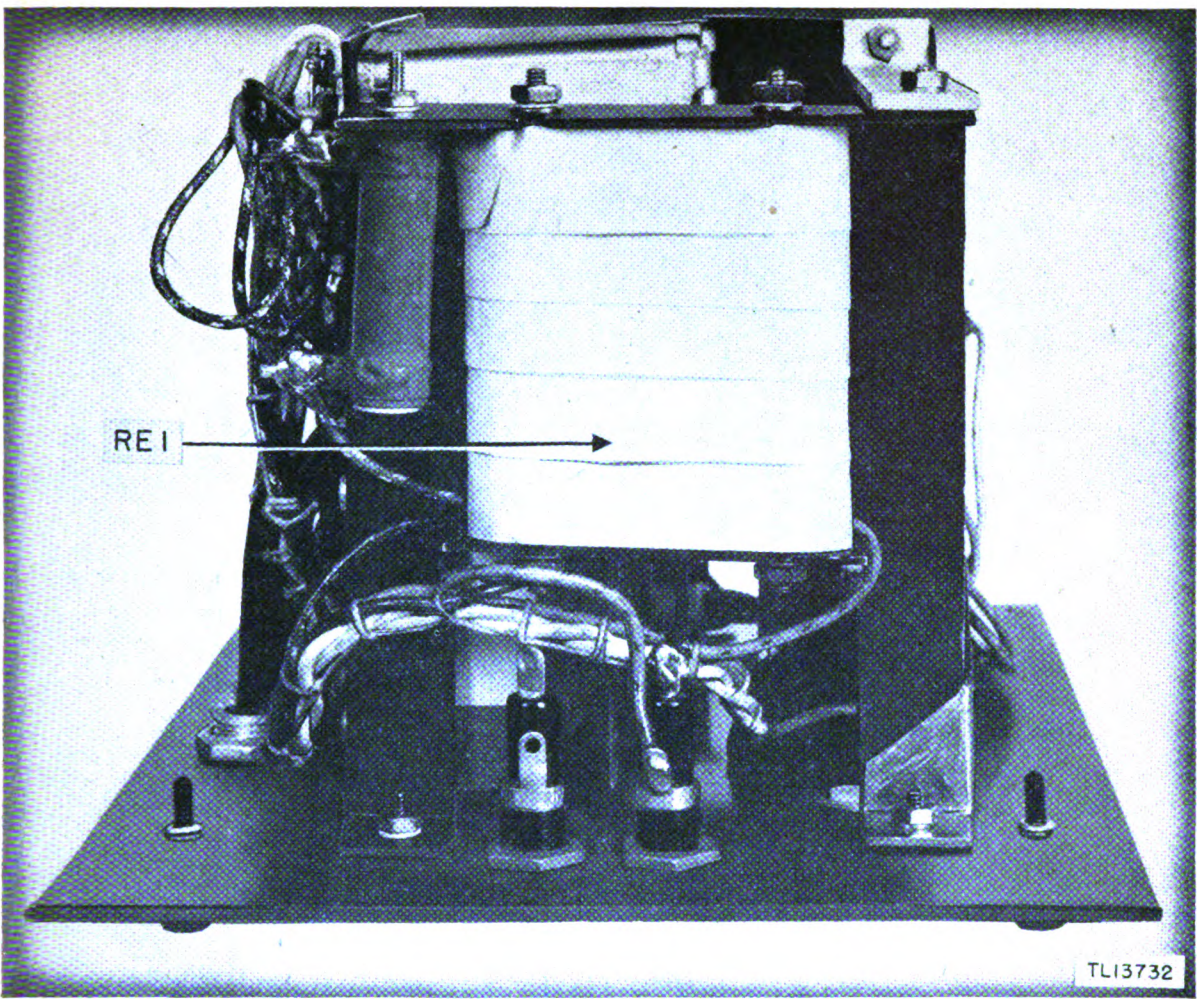

Figure 22. Application of masking tape to selenium rectifier assembly of Control Unit C-113/TRA-2.
(2) Mask selenium rectifier assembly RE1 as shown in figure 22.
(3) Tighten the two binding posts (LINE) to prevent varnish from covering contact areas.